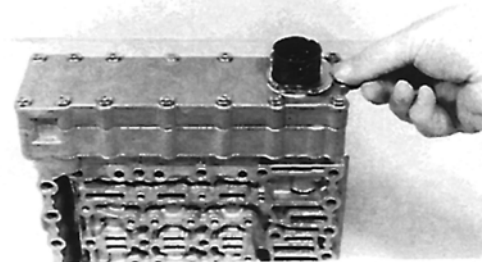

Figure 78
- M. Install female connector using retaining clamp, see Figure 78.